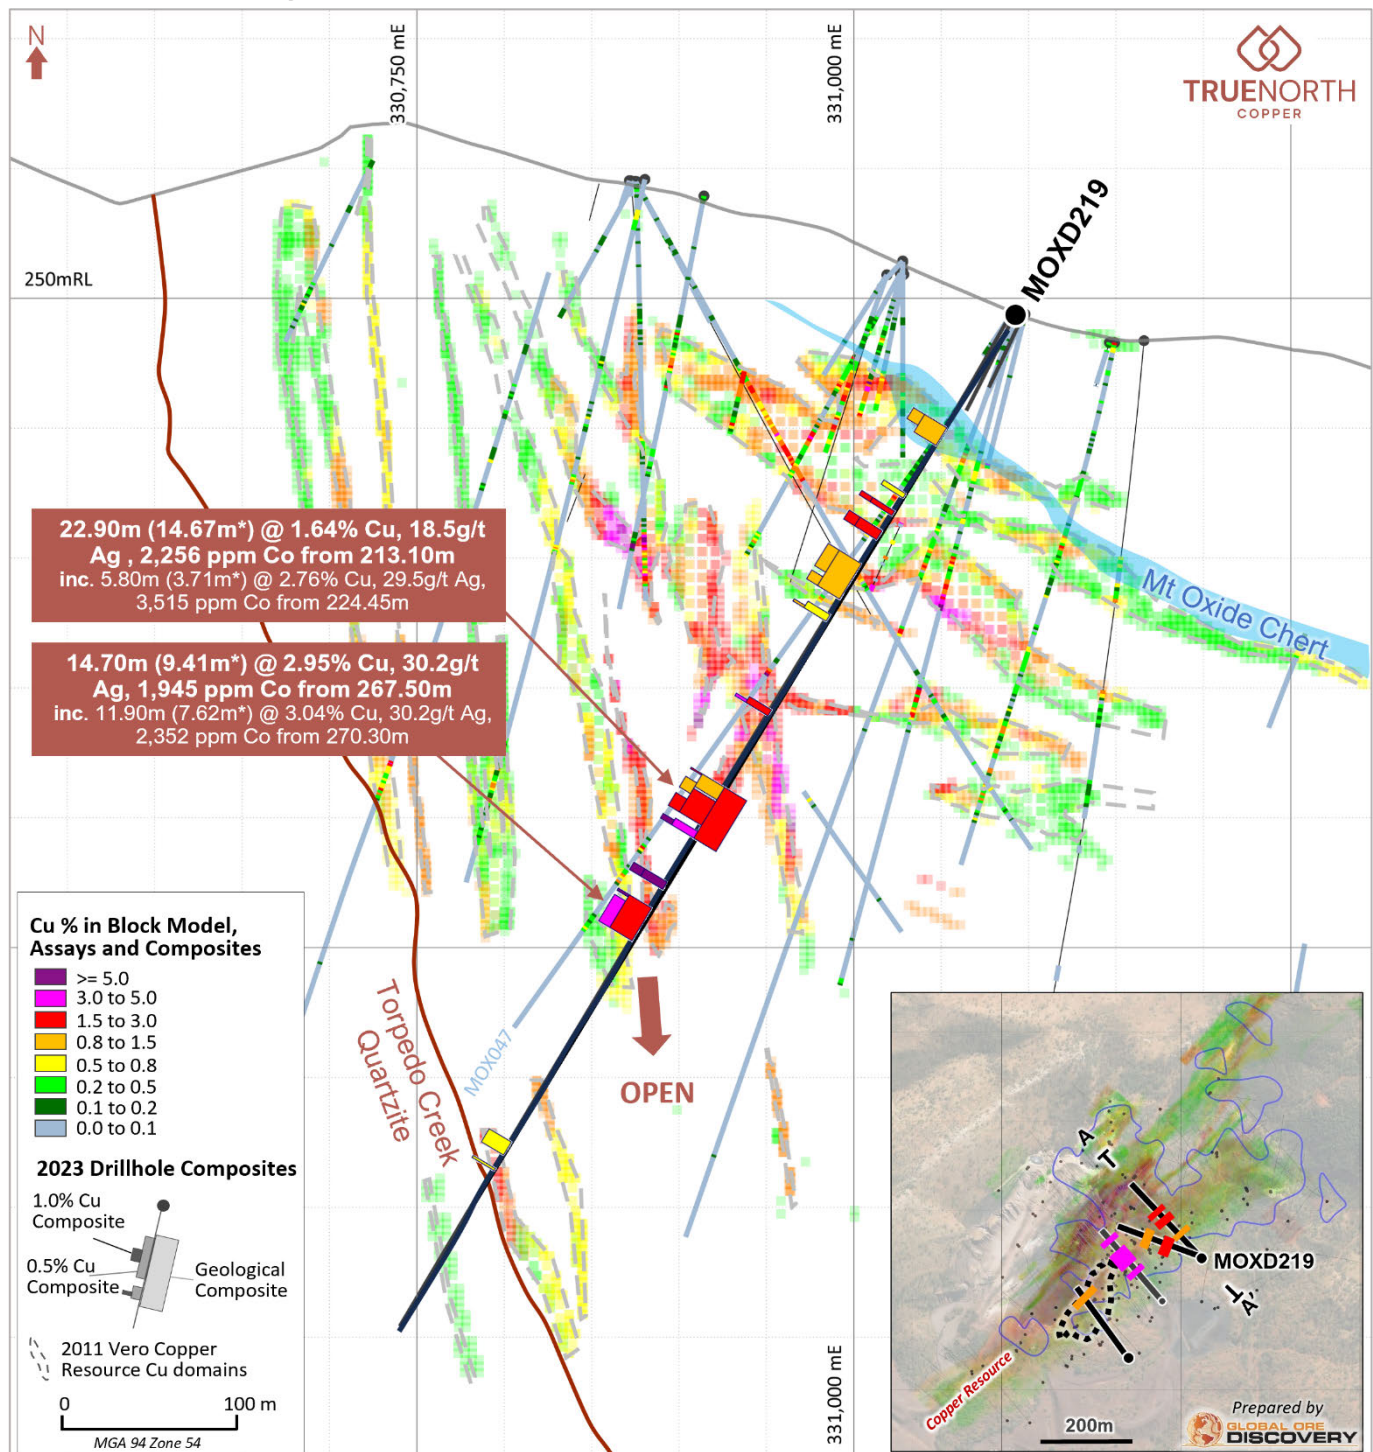

Figure 4. Cross section of MOXD219 (20m clipping window) showing the location of geological and grade composites.
- At depths of 250 and 280m down hole MOXD219 intersected steeply dipping copper sulphide infill breccias and overprinting copper sulphide vein breccias (Figure 3, Figure 6, Table 2) was intersected. This represents 25m step down and a 15m step off along strike from historic drilling (Figure 4). Mineralisation in these zones remains open along strike to the northeast for over 80m and down dip for over 80m.
- Near surface mineralised intersections above 150m downhole in MOXD219 (Figure 4, Table 2) provide confirmation and increase the confidence in the lower grade, flat lying copper cobalt resource developed near surface.